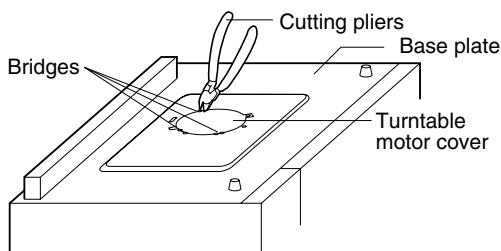

Figure C-1(a). Turntable motor cover removal
4. Cut the three (3) bridges holding the turntable motor cover to the base plate with cutting pliers as shown in Figure C-1(a).